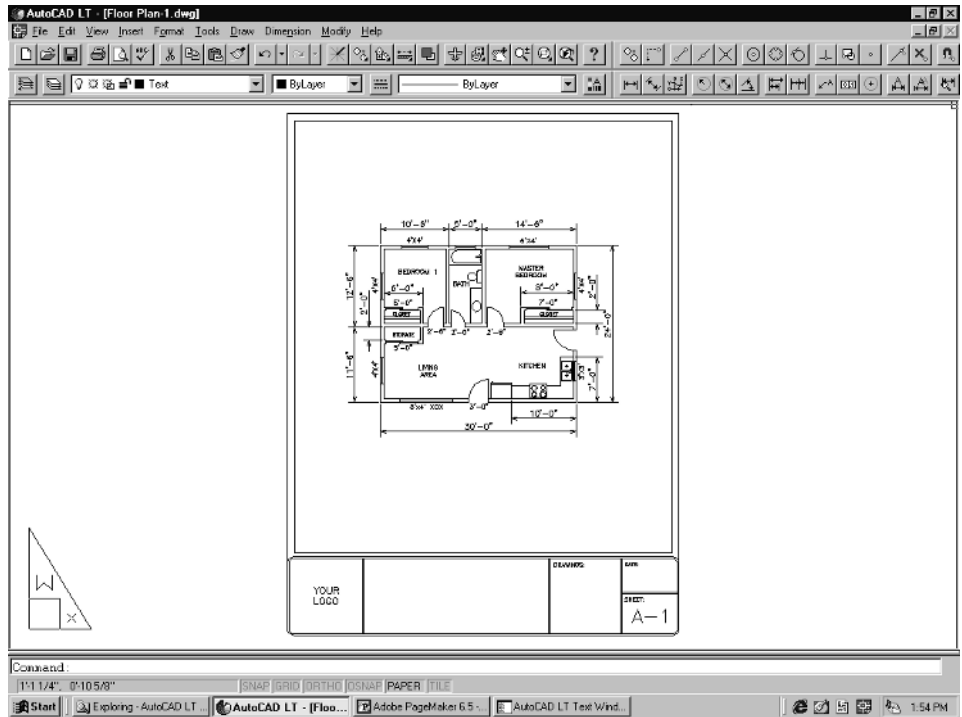

Figure 2-119
1. The first thing you need to do is double-pick on the **TILE** button if you're using LT 98 or pick the **Layout1** tab if you're using LT 2000. The border, with the floor plan in it, will come back up. Notice again the triangular icon in the lower left of your screen. This triangular icon lets you know that you are now back in paper space. See Figures 2-119 (LT 98) and 2-120 (LT 2000). Remember, you can move the floor plan around inside of the viewport but must change to floating model space before doing so. You do this by picking on the **PAPER** button on the status bar. This toggles back and forth between paper space and floating model space.